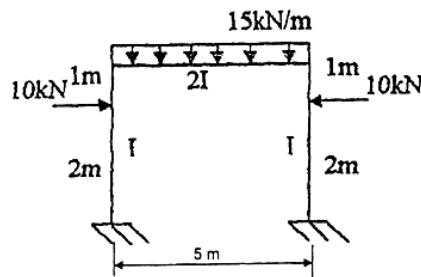

Fig. Q. 14 (b)
- (b) Analyse the portal frame shown in Fig. Q. 14 (b) by slope deflection method and draw the bending moment diagram.